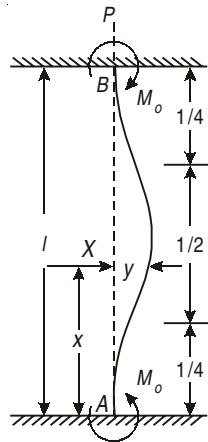

Fig. 7.12
Consider a column AB of length l fixed at both of its ends A and B and carrying a critical load at B . As a result of loading, let the column deflects as shown in Fig. 7.12.
2. The fixed beam AB may also be considered as equivalent to a column of length $\frac{l}{4}$ with one end fixed and the other free (i.e., lower one-fourth portion of the beam as shown in Fig. 7.12).